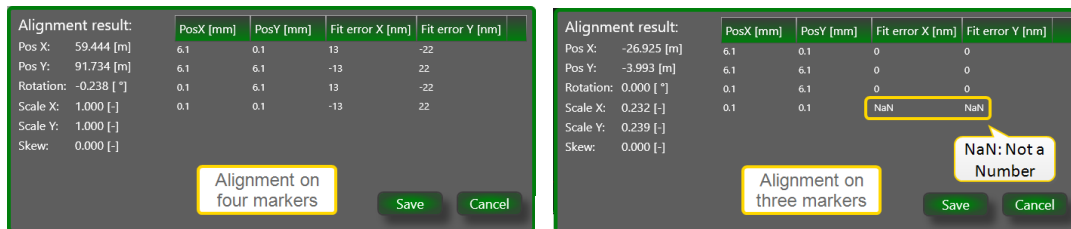

Figure 3-125 Alignment results window
4. Press **Align** to align the project. The **Alignment result** window opens, see in **Figure 3-125** below